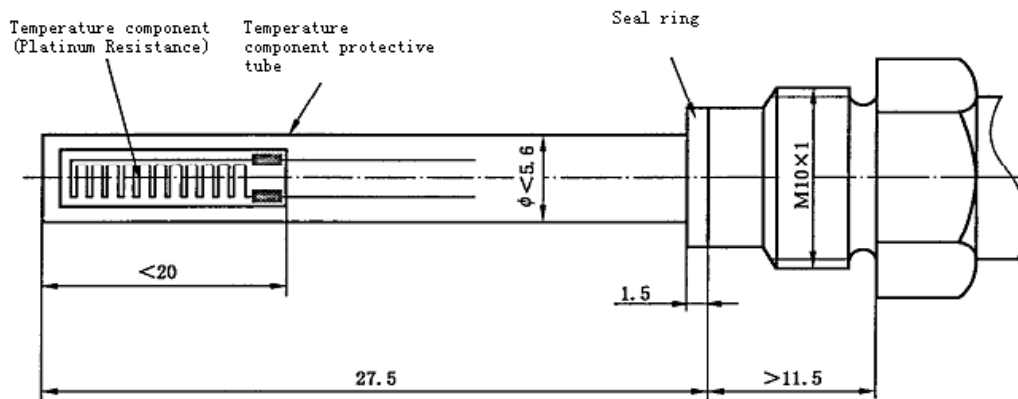

Fig. 1: Mechanical drawing for A-type insertion probe.
- (1) A-type probe: direct insertion short temperature probe, model# PT100IN-A/PT1000IN-A. This type probe is normally used for small pipes, DN15–DN32 (0.2"–1.25"). It does not have thermalwell. The probe wires are pre-connected. Please refer to Fig. 1 for the mechanical structure.